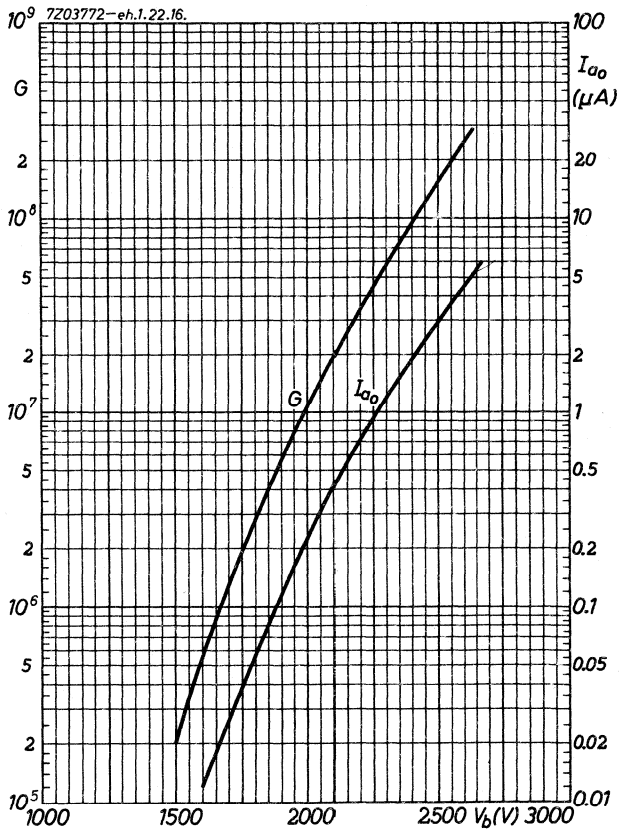

Fig.1
- B. The multiplier system consists of 14 stages, providing a total current amplification of 10^8 at about 2400 V (see fig.1). The tube is capable of producing very strong peak currents (up to 1 A) Actually, the time constant at the output of the multiplier must be very small. Therefore it is necessary, taking into account the parasitic capacitances, to use a low load resistance. It is advisable to use a resistance-matched coaxial cable (e.g. 75 or 100 Ω). With this load the tube easily delivers pulses of tens of volts, so that an amplifier is rendered superfluous.